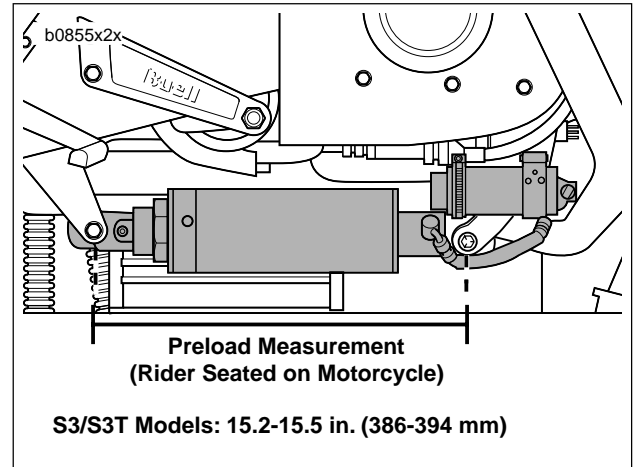

Figure 1-30. Measuring Preload
1. See Figure 1-30. Check and adjust rear shock preload.